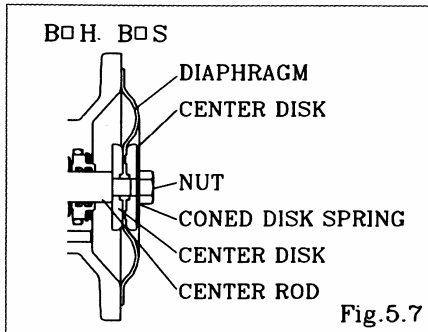

Fig.5.7
- Keep the convex side to the outside (cf. Fig.5.7).